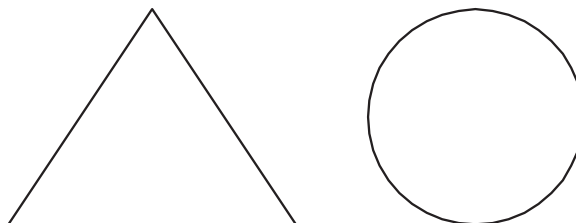

Fig. 6-1
2. Using the **LINE** and **CIRCLE** commands, draw the triangle and circle shown in Fig. 6-1.